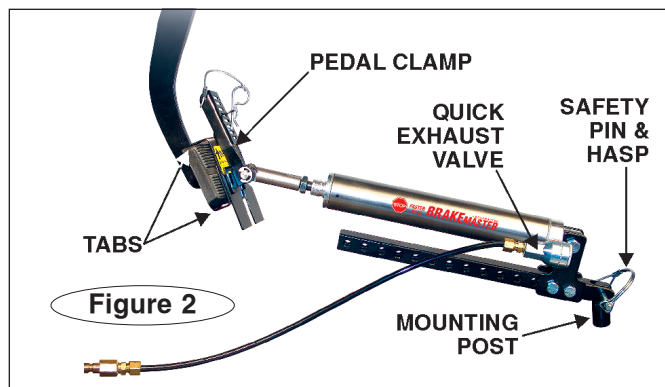

Figure 2
5. On the initial installation, it may be necessary to adjust the tabs (Figure 2) on the pedal clamp (Figure 2) – use pliers to bend any or all of the tabs so that they hook around and under the towed vehicle's brake pedal.
8. The quick exhaust valve (Figure 2) on the air cylinder can be rotated for easier connection to the air line. (Rotate the valve so that the air line is not kinked.)
9. Install the mounting post (Figure 2) so that the air cylinder must be pulled back in order to insert the safety pin and hasp (Figure 2). This creates spring tension, which keeps the weight of the cylinder off the brake pedal.